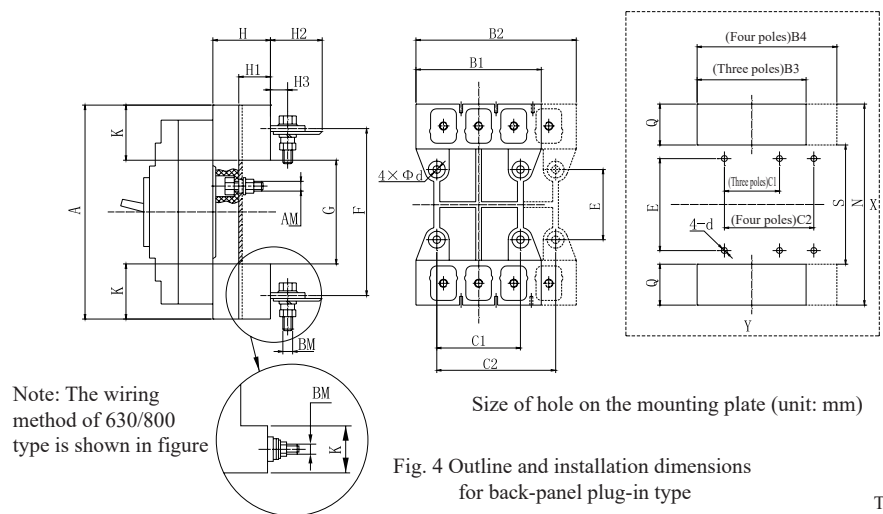

Fig. 4 Outline and installation dimensions for back-panel plug-in type
9.3 The outline and installation dimensions of the back-panel plug-in type see Fig. 4 and Table 14: